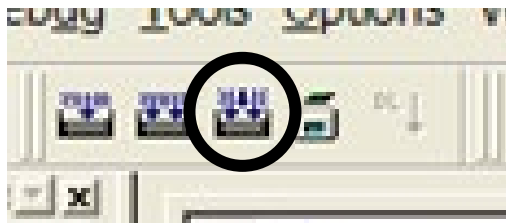

Figure 7.2
7.2 To compile the code, click on the highlighted shortcut button shown in figure 7.2.